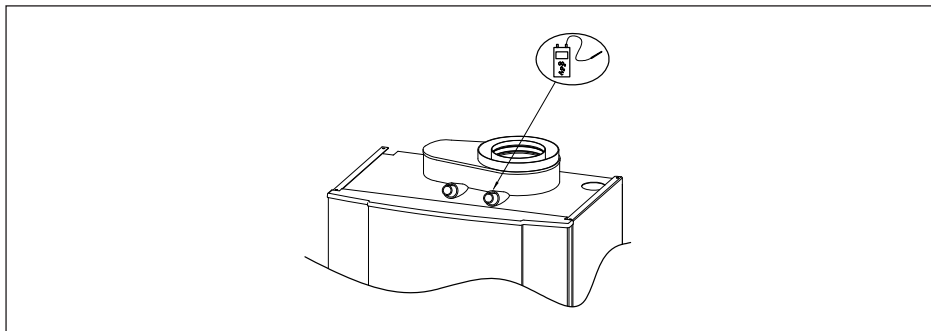

Fig. 18 Flue gas measure point.
14. Connect flue gas analyser to test point (see *Fig. 18*)